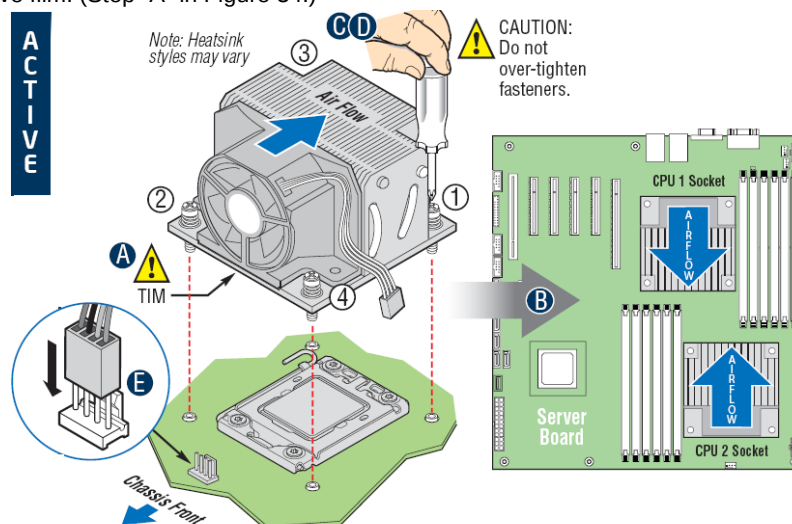
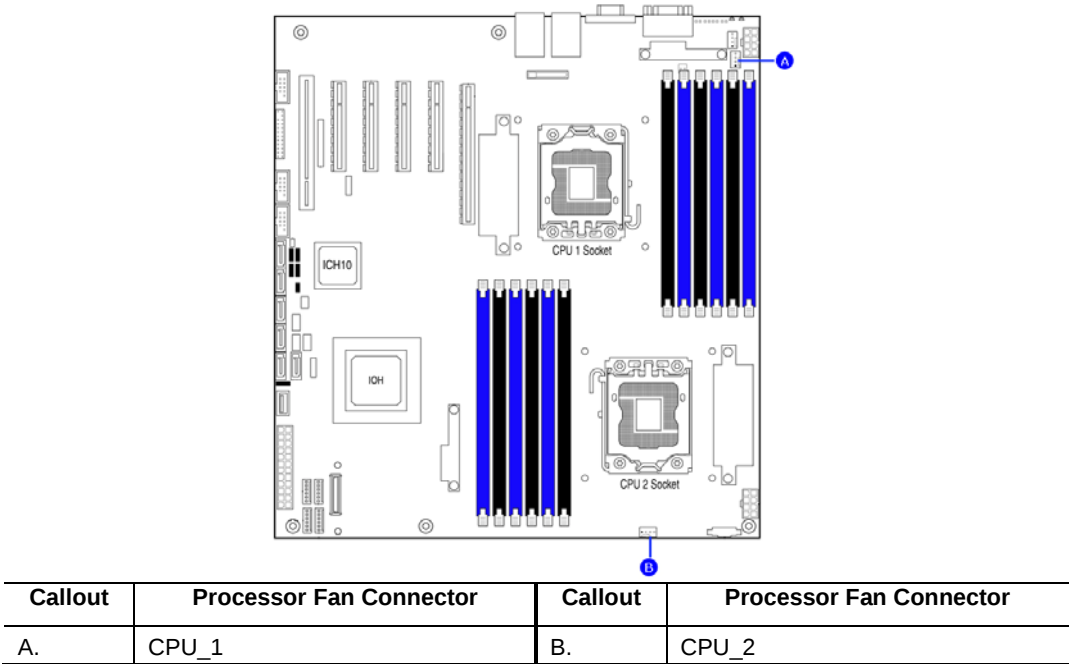

Figure 34. Installing Processor Heatsink(s)
Figure 35. Locating Active Heatsink Cable Connections
4. If a protective film covers the thermal interface material (TIM) on the underside of the heatsink, remove the protective film. (Step “A” in Figure 34.)
- 5. Align the active heatsinks in the Intel® Server Chassis SC5650 and Intel® Server Chassis SC5600 (excluding Intel® Server Chassis SC5600LX) to let airflow go through to the center of the board (Step “B” for active heatsink in Figure 34). Align the passive tower heatsinks (FXXRGTHSINK) fins to fit the Intel® Server Chassis SC5600LX air duct (Step “B” for passive heatsink in Figure 34).
- 6. Using a #2 Philips* screwdriver to tighten each fastener diagonally according to the white-circled numbers in Figure 34. (Step “C” in Figure 34).
- 7. Securely re-tighten each fastener again in the same order as performed in Step 6. (Step “D” in Figure 34.)
- 8. Attach an active heatsink fan cable to the server board. (Step “E” in Figure 34). See Figure 35 to locate the processor fan headers.